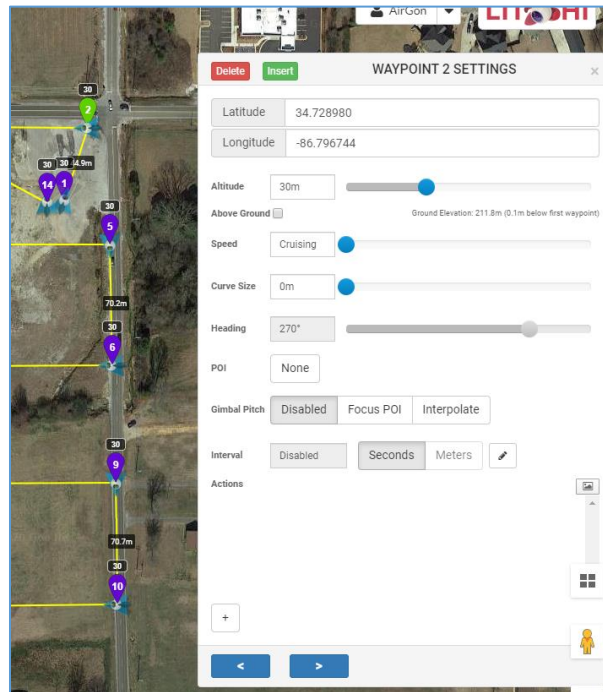

Figure 15 – Waypoint Setting Dialog
13. Click on waypoint 2 to select it. It should turn green when it is selected and the waypoint setting dialog should appear (Figure 15) if it is not already visible.